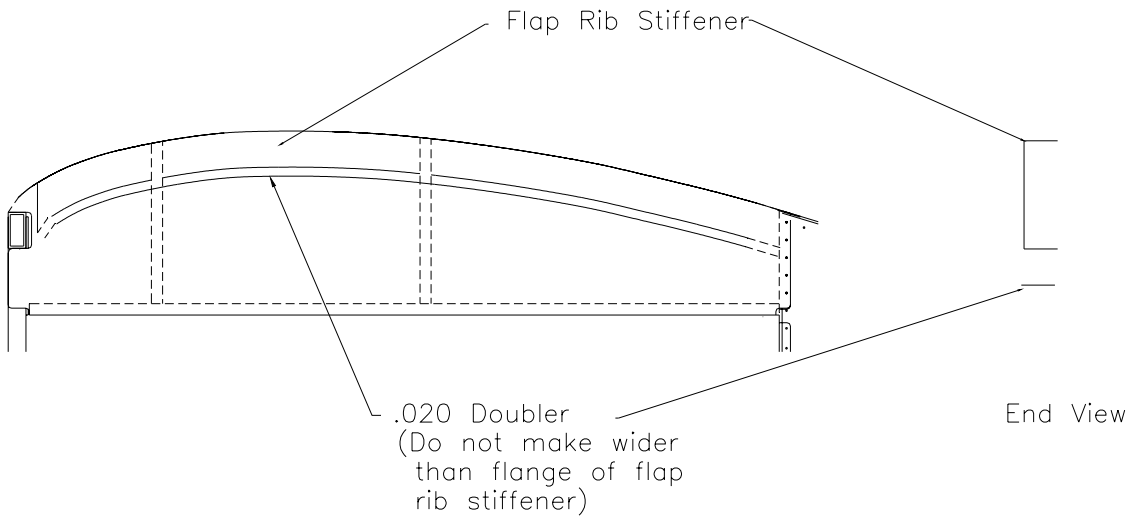

Figure 20.12.5
9) Drill and rivet a .020 doubler strip along the flap rib. Figure 20.12.5. (1" Spacing is recommended)